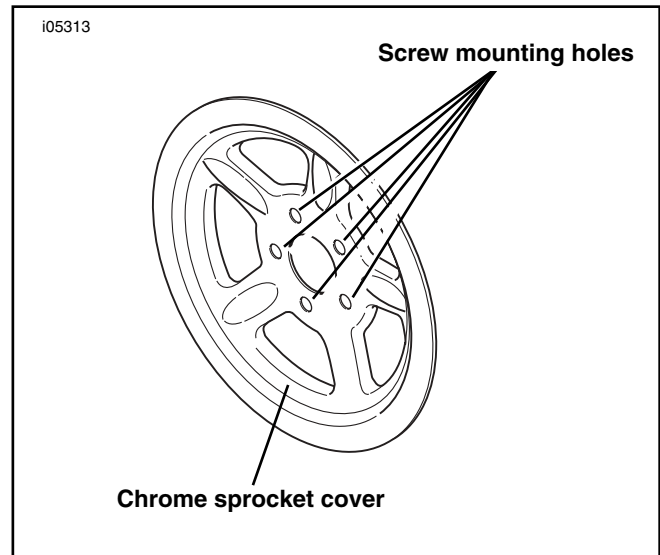

Figure 1. Install Chrome Sprocket Cover
2. See Figure 1. Remove the five sprocket mounting screws.